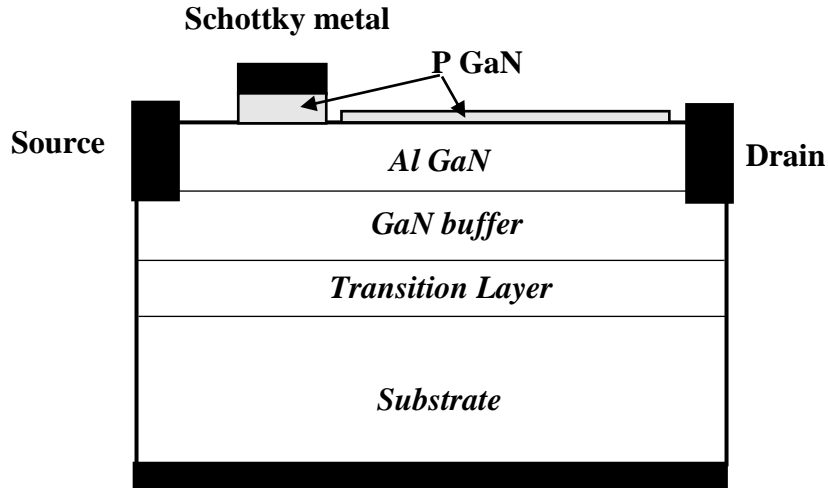

Fig. 3
3. The cell structure in Fig. 3 represents a HEMT in Gallium Nitride technology.